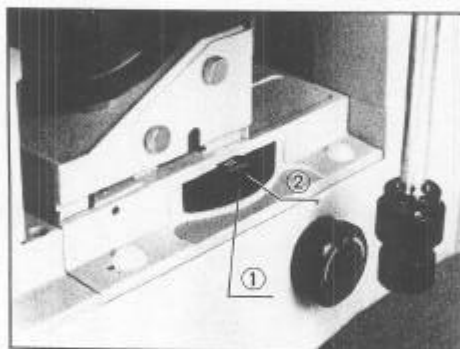

Fig. 32
2) Rotate the magnification changer to the CT position. (Fig. 32)
- 3) Focus on the phase annulus ③ by means of the focus ring ②. (Figs. 32, 33)
- 6) Rotate the magnification changer ① to the "1X" position, and observe the specimen to check the phase contrast effect. (Figs. 32, 35)